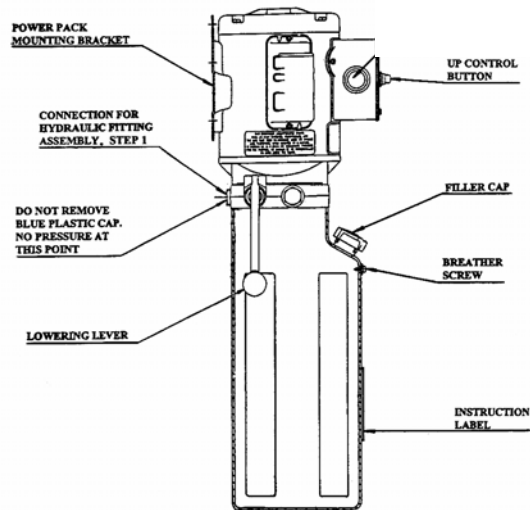

Figure 9 – Powerpack Details
1. Refer to **Figure 9** - arm restraint installation.